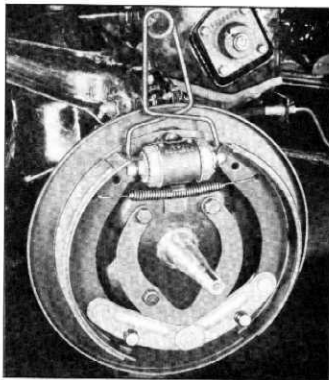

Fig. 17—Brake Wheel Cylinder Clamp
3. Install wheel cylinder clamps KMO-145, (fig. 17), to keep wheel cylinder pistons in place and to prevent leakage of fluid while replacing shoes. 20764107